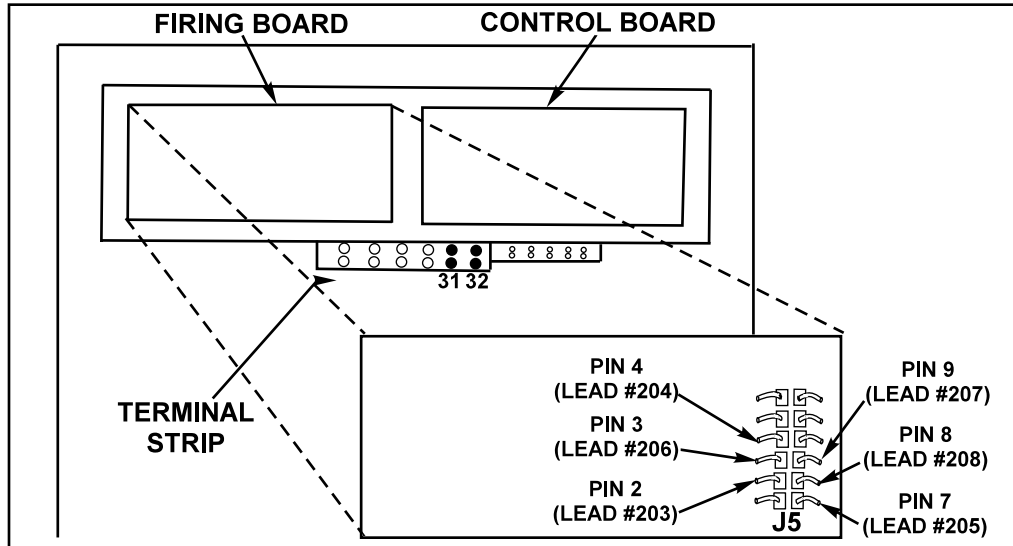

**FIGURE F.4 - Main Secondary Lead Test Points**
6. Test with an AC voltmeter for approximately 60 VAC from each of the six main transformer secondary leads to the common buss connected to the negative output terminal. See Figure F.4.